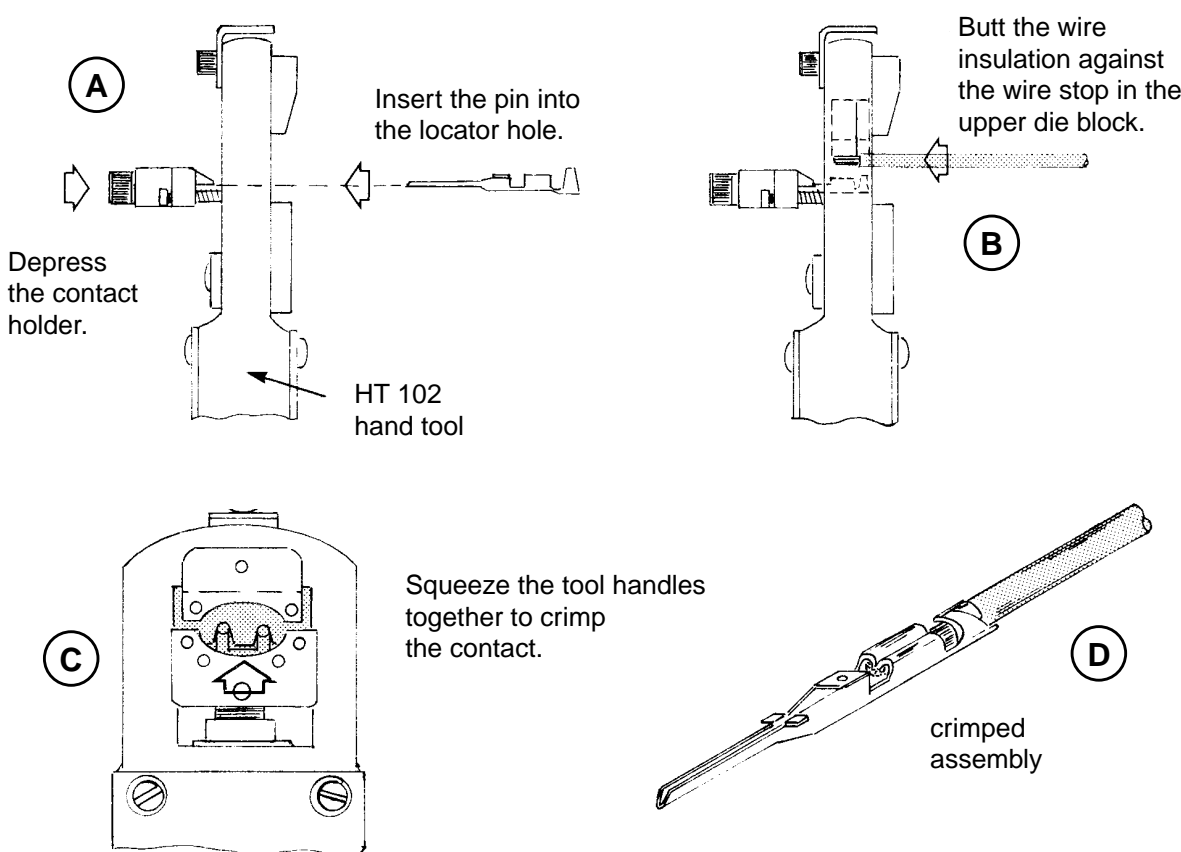

Figure 5 - Crimping CTW Pin Contacts
5.3 Crimping of CTW Pin Contacts (See Figure 5)